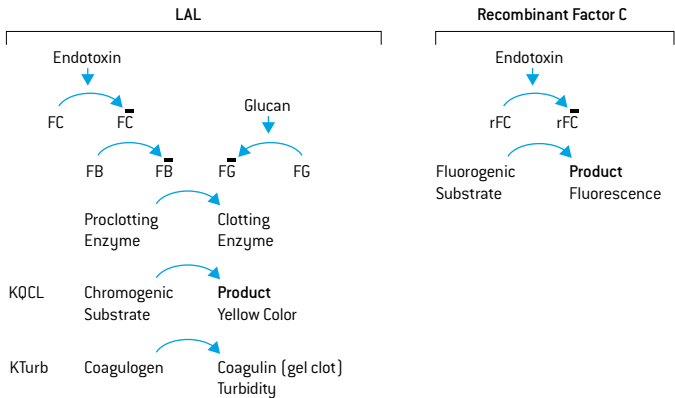

Figure 1. Schematic drawing of the endotoxin detection mechanisms in the LAL system and the rFC system.
The protease cascade and rationale of traditional LAL tests are illustrated in the LAL Pathway, Figure 1 (next page). Factor C, the first component in the cascade, is a protease zymogen that is activated by endotoxin binding^{5, 6, 7}. In this pathway, Factor B (FB) is activated by Factor C. An alternative pathway, the Factor G (FG) pathway, can be activated by glucan binding⁸. Downstream, Factor C and Factor G pathways individually activate a proclotting enzyme into a clotting enzyme. The chromogenic LAL assay (Lonza's Kinetic-QCL™ Assay) uses a synthetic chromogenic peptide substrate that can be cleaved by the clotting enzyme, resulting in a product that exhibits a yellow color. The turbidimetric assay (Lonza's PYROGENT™-5000 Assay, KTurb) uses the native substrate, coagulogen, which can be cleaved into coagulin. Coagulin then begins to self-associate, resulting in an increase in turbidity. The densities of the yellow color (OD 405 nm) and turbidity (OD 340 nm) are correlated with endotoxin concentration.
Recombinant Factor C is activated by endotoxin binding, and the active moiety created then acts to cleave a synthetic substrate resulting in the generation of a fluorogenic compound (Figure 1, rFC pathway). The assay is carried out in a 96-well plate. Fluorescence is measured at time zero and after a one-hour incubation at $37^{\circ}\text{C} \pm 1^{\circ}\text{C}$ in a fluorescence microplate reader using excitation/emission wavelengths of 380/440 nm. The difference between the one-hour reading and the time zero reading (ΔRFU) is corrected for blank ΔRFU fluorescence. The log net fluorescence is proportional to the log endotoxin concentration and is linear in the 0.005 to 5.0 EU/ml range. Endotoxin in a sample is calculated relative to a standard curve.